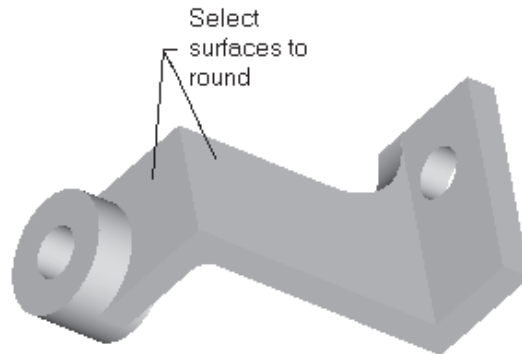

Figure 5-45 Planar surfaces for creating round of radius 15
7. Using the same options, create the second round of radius 15. The surfaces that will be selected to create this round are shown in Figure 5-45. The two round features will appear as two individual features in the **Model Tree**.